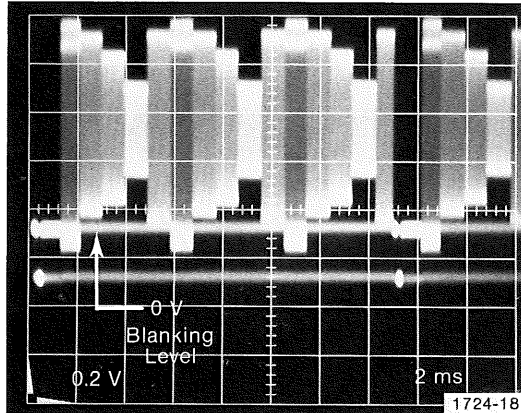

Figure 3-8. Composite Video Waveform for The Multiburst Function.
- g. Connect the Composite Video Output 1 V P-P signal to the oscilloscope vertical input, terminating with a 75 Ω impedance. Drive the oscilloscope external trigger with the signal at U655 Pin 8 (Figure 3-4). Set sweep to 2 ms per cm, and vertical deflection to 0.2 V per cm. Observe the composite video waveform on the screen (Figure 3-8). Adjust R280, located on the Logic and Output board, for a blanking level of 0.0 V to ground. R280 is accessible through a hole in the Sync Generator board.